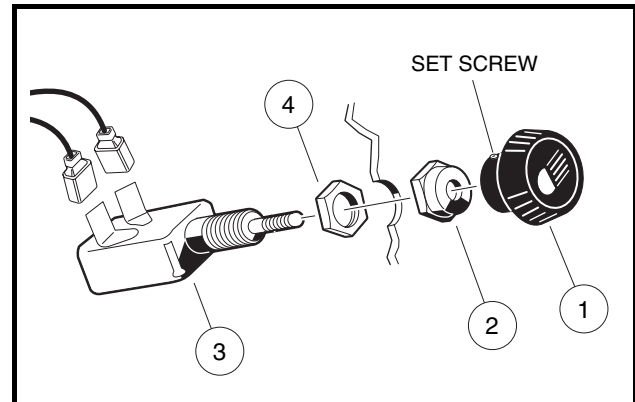

Figure 14-31 Light Switch
2. Loosen the set screw locking the light switch knob (1) to the shaft (**Figure 14-31, Page 14-28**).
5. Remove the outer nut (2) from the switch (**Figure 14-31, Page 14-28**).
6. Remove the light switch (3) from the center dash.
2. Thread the check nut (4) onto the switch until an equal number of threads show on both sides. Insert the switch through the center dash and install the nut on the outside of the dash. Tighten the nut to 14 in-lb (1.6 N·m) (**Figure 14-31, Page 14-28**).